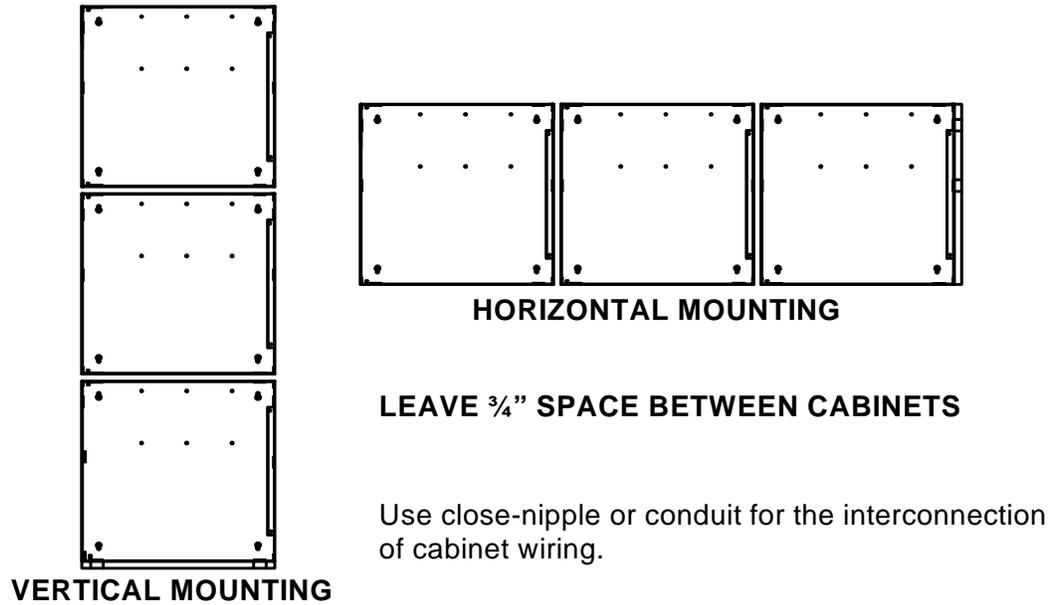

Figure 2.5.1 INCC-E Backbox Installation
2. Remove the 1  $\frac{1}{4}$ " diameter knockouts from adjacent boxes prior to mounting to permit wiring from box to box and to peripheral devices in the field. Refer to Figure 2.5.1 and Figure 2.5.2.